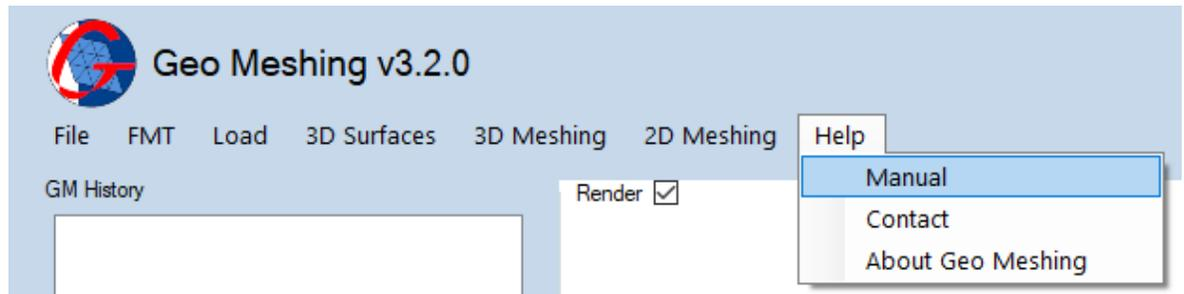

Figure 37: Help Strip Menu – Manual.
- **Help Menu, Manual:** This option (shown in Figure 37) opens this manual.